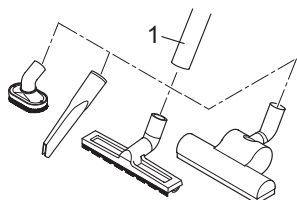

Fig.9
3. Push the desired nozzle on the lower end of the telescopic tube or if necessary directly onto the handle (Fig. 9).